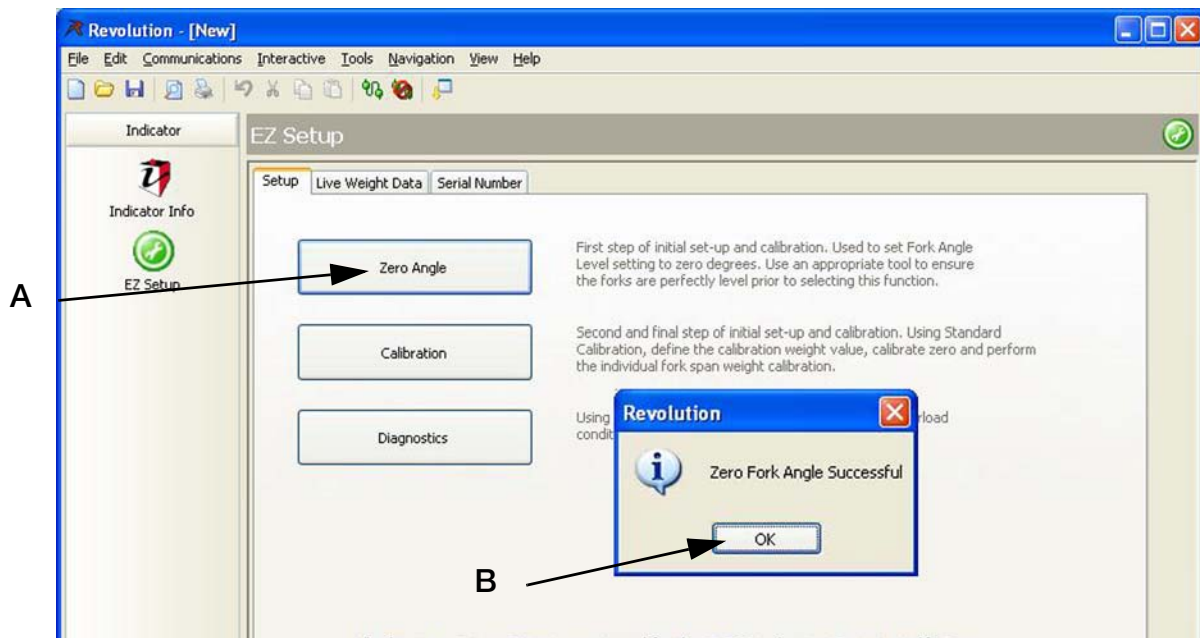

Figure 4-8. Zero Forks
2. In the setup screen, press **Zero Angle** (Figure 4-8 A).
3. A pop-up appears as shown in (Figure 4-8 B), press **OK** to close the pop-up box.